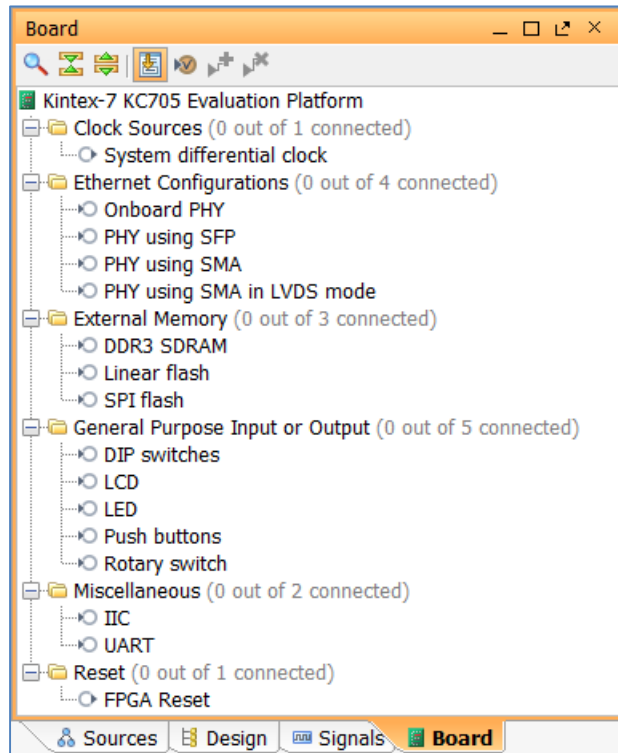

**Figure 101: Search Field**
- As shown in Figure 101, type **micr** in the Search field to find the MicroBlaze IP, then select **MicroBlaze** and press the **Enter** key.